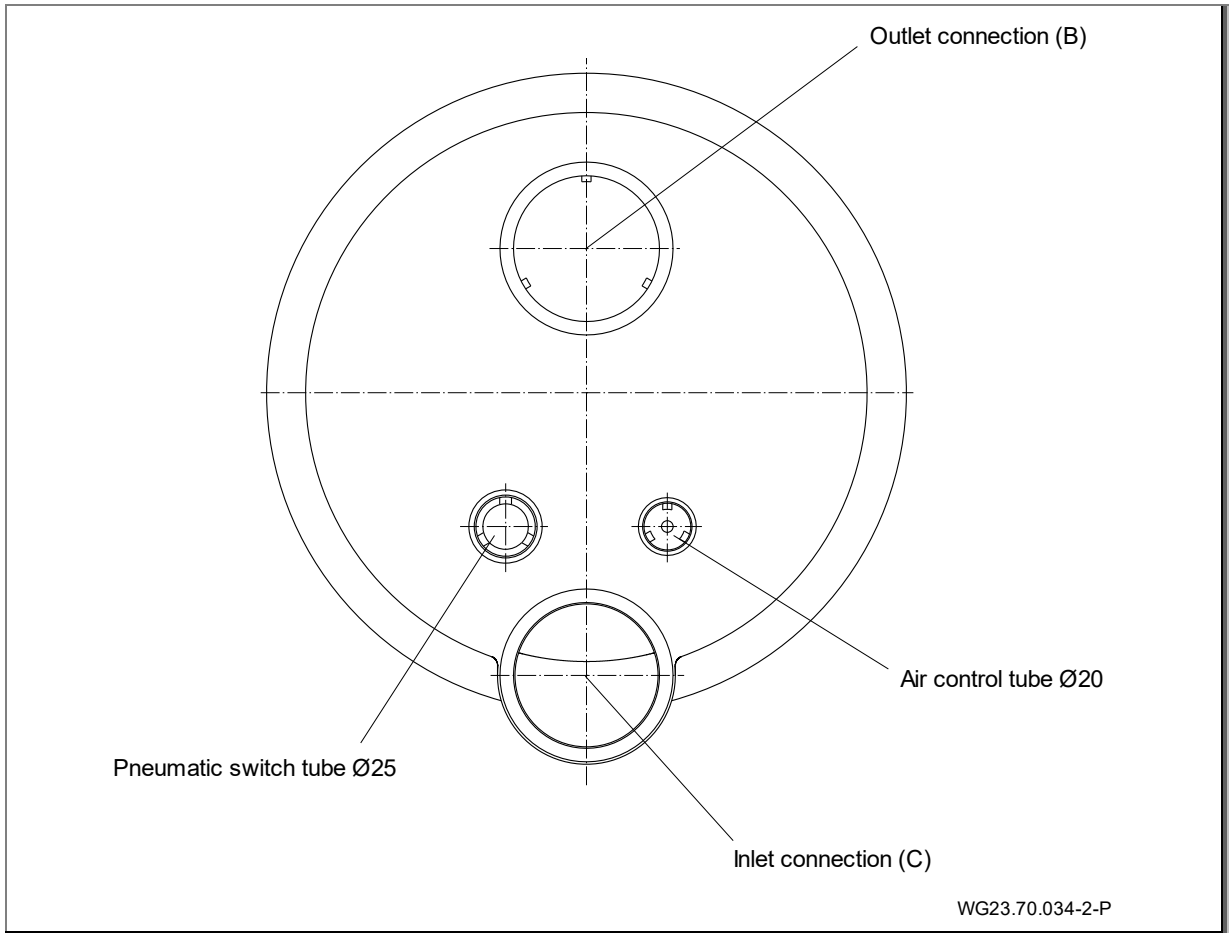
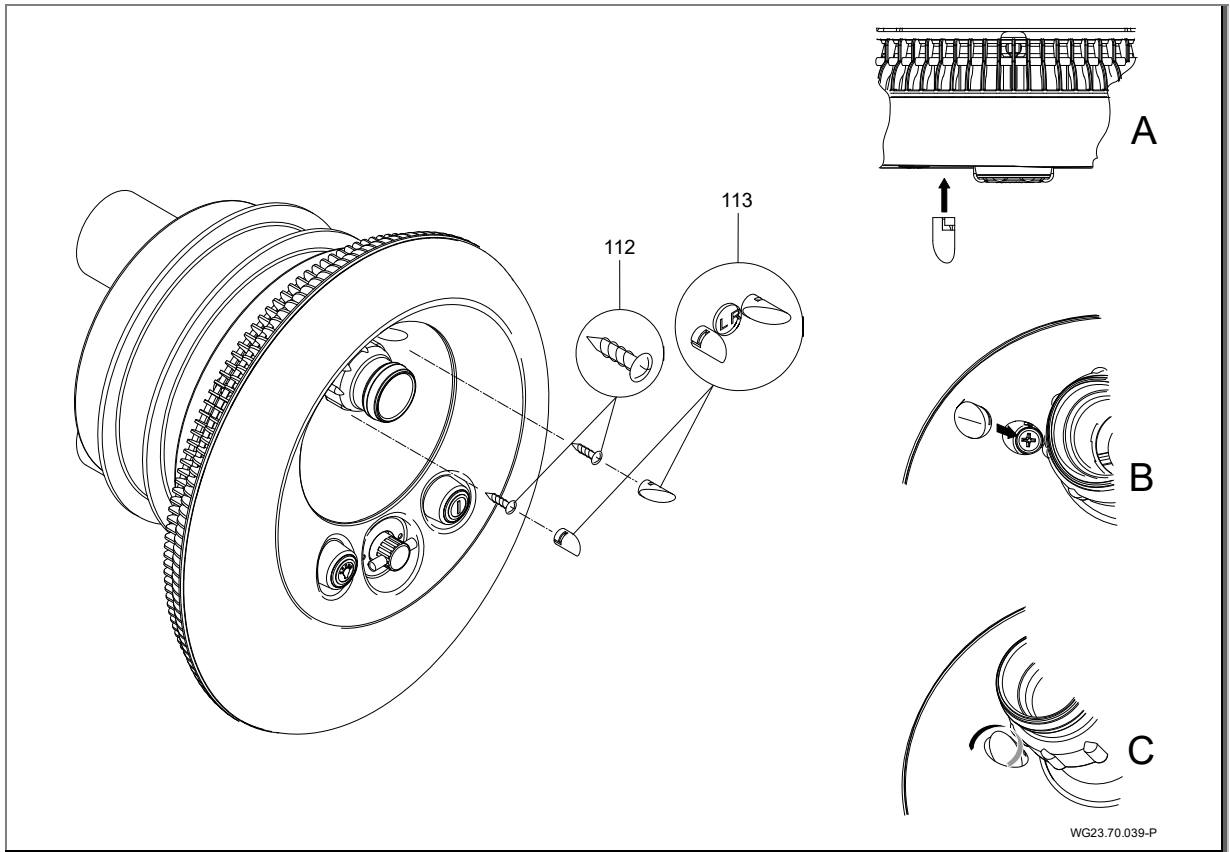

Fig. 16
Fig. 21
1. Glue in the cable protection hose and the hose for air supply. (Fig. 16)
10. Attach the decorative caps in the light cover as in Fig. 16. Use the correct decorative cap for left (L) and right (R). (Fig. 21)
1. Loosen cable screw (20).
4. Unlock cover (113). See "Fig. 21" on page 26.
5. Loosen screws (112) and remove lighting cover (110).
6. Loosen screws (49) and remove stainless steel cover (93).
7. Loosen screws (95) and remove suction housing (107).
8. Loosen screws (52) and remove support ring (28) and support ring seal (27).